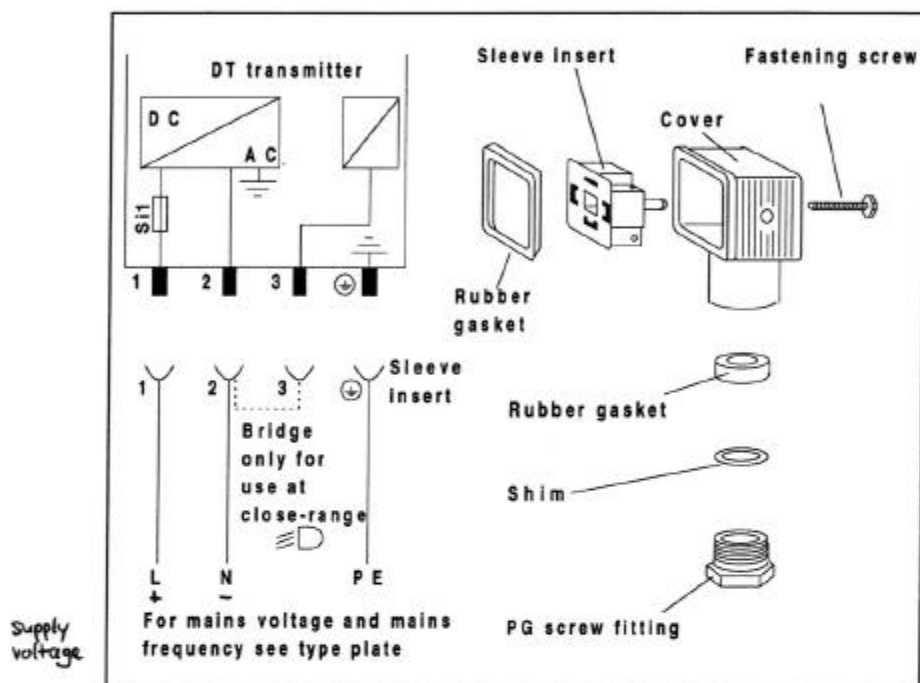

Figure 8-1 Supply voltage connection on DT transmitter or DTL
Before making the connection, check whether the local supply voltage corresponds to the details given on the type plate. Connect up the supply voltage in accordance with Figure 8-1 at the sleeve insert of the plug provided.
- Bare the insulated conductors and connect as per Figure 8-1